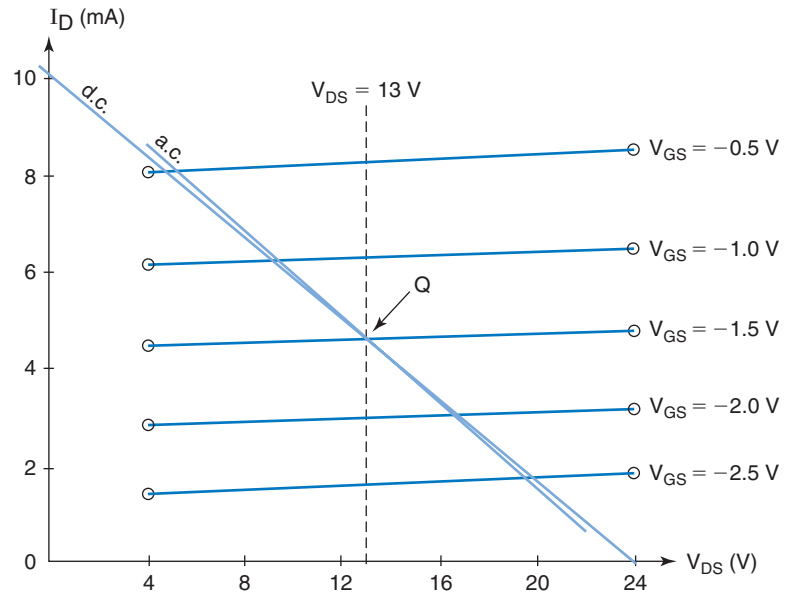

Fig. 35
- (a) The plotted characteristics are shown in Fig. 35.
slope = -0.455 mA/V (use -4.55 mA/10V), and the plotted load line is as shown on Fig. 35.